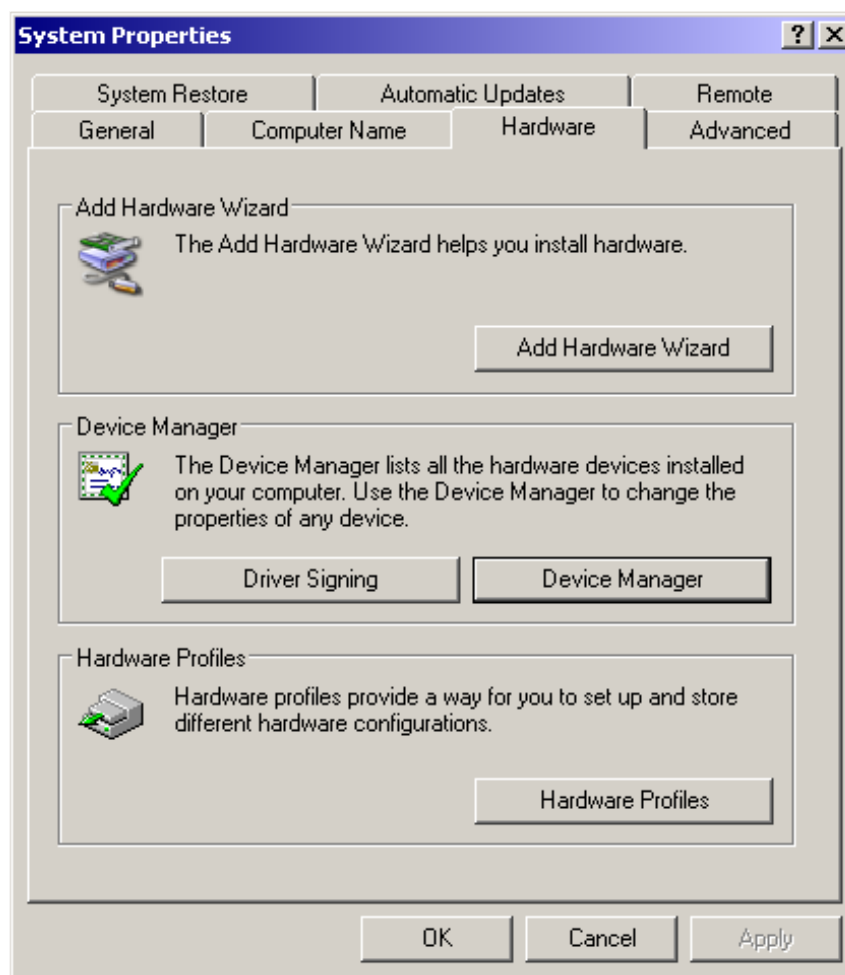

FIGURE 233. System Properties
4. Select the Add Hardware Wizard button as shown in Figure 233.